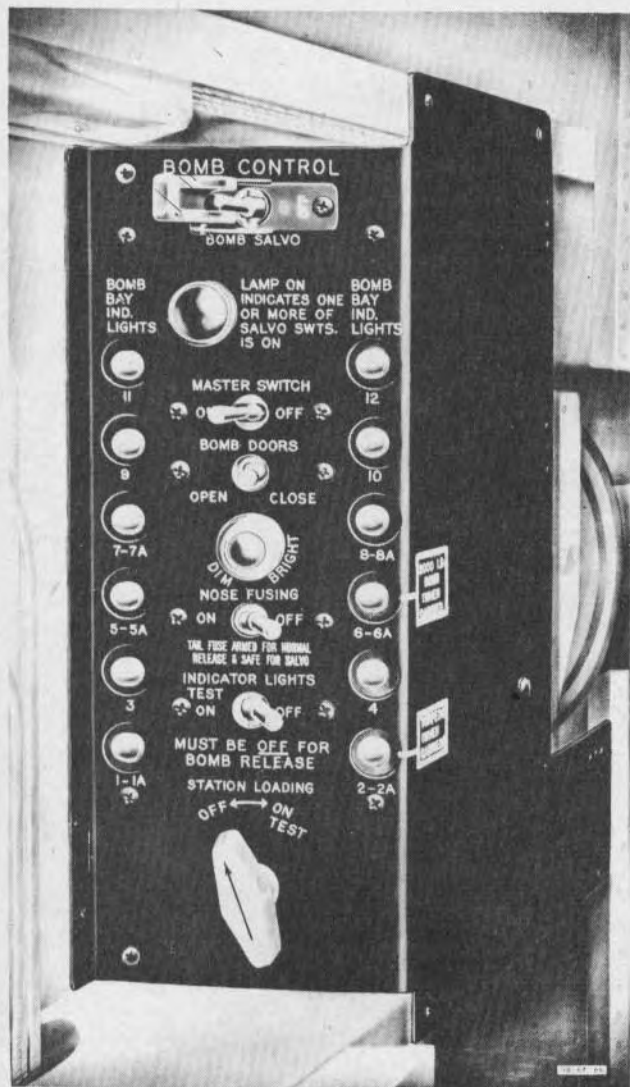

Figure 36—Pilot's Bomb Control Panel—Early Airplanes
(1) DESCRIPTION.—The bomb control panel is located on the left side of the pilot's compartment. See figures 36 and 37 for the differences between bomb control panels used on early and late airplanes. A Type B-3 bomb interval control may be attached to a mount on the right side of the pilot's compartment to permit the pilot to release bombs selectively or in a train. The bomb release switch is on the pilot's aileron control wheel. A bomb sight assembly on top of the gun sight may be used for minimum altitude (horizontal) bombing.
(2) OPERATION.—Since the bombing equipment operated by the pilot is similar to that operated by the bombardier, see paragraph 2. a. (2) following for operation.